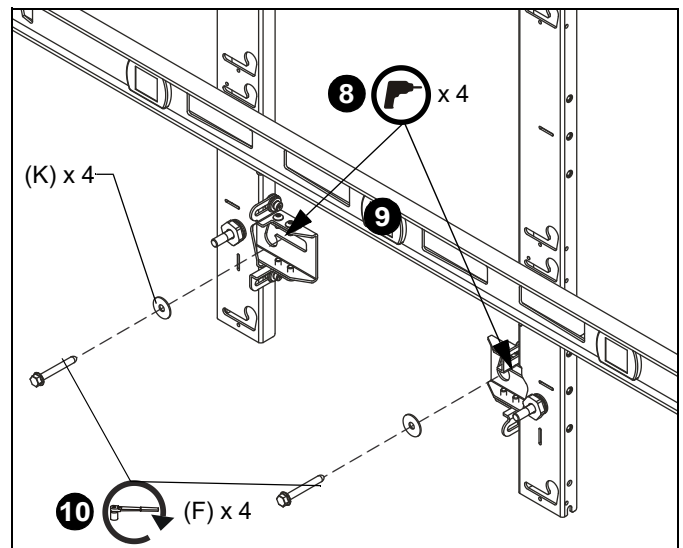

Figure 23
8. Drill pilot holes in centerline of each mounting slot on each leveling foot of the added mount (see Table 1 for size) and follow fastener information (appropriate for wall type) located in Table 1. (See Figure 23)
9. Double check the level of the mount at the bottom of the teardrop slots, and make sure the new mount stays perfectly aligned with the upper or lower mount to which it was attached. (See Figure 23)
10. Fully tighten the 5/16 x 2-1/2" lag screws (F) through the 5/16" fender washers (K). (See Figure 23)